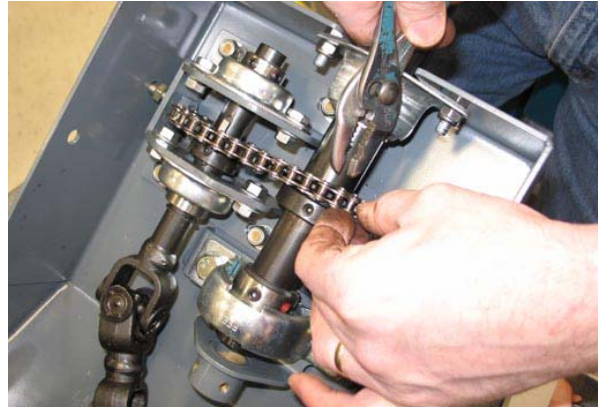

FIG. 48
8. Reinstall the steering chain onto the steering sprockets. (Fig. 48)